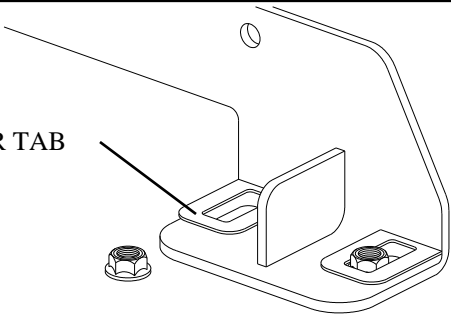

Fig. 7.
1. Referring to figure 7 on page 8, lift the Nut Keeper Tab and insert a 1/2"-13 Flange Nut at each hole location. Press the Nut Keeper Tab down so that the Flange Nut will not fall out. The Keeper Tab will allow the nut to slide for line up purposes and provide "back-up" when tightening the Bed Bolts from above.
1. Referring to figure 7 on page 10, lift the Nut Keeper Tab and insert a 1/2"-13 Flange Nut at each hole location. Press the Nut Keeper Tab down so that the Flange Nut will not fall out. The Keeper Tab will allow the nut to slide for line up purposes and provide "back-up" when tightening the Bed Bolts from above.